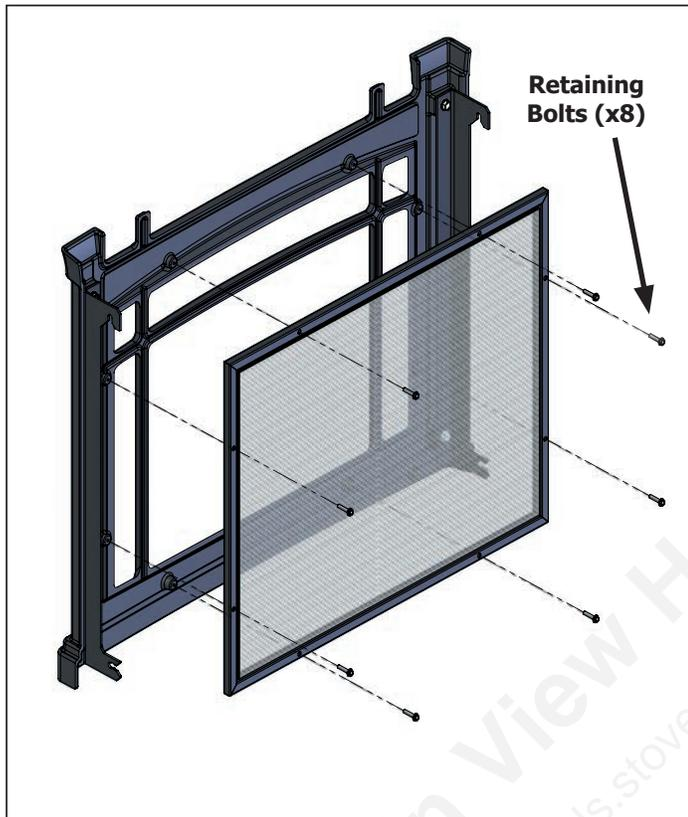

Figure 51. Safety Screen Removal - Front
Step 4: If replacing the side screen skip to step 5. If replacing the front screen remove the eight (8) retaining bolts (Figure 51) using a 1/4" socket and remove the damaged screen while noting the orientation. Install the new screen (50-3243) by simply re-installing the retaining bolts. Re-install the cast door and top to finish.